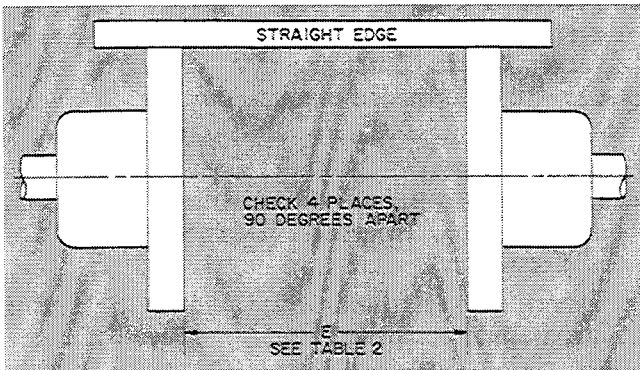

Fig. 4 — Preliminary Adjustment
**See Fig. 4.
Axial Adjustment (Dimension "E," Fig. 4) — Set the motor shaft in running position as explained under Preparation, Step 4.
Adjust the motor position as required until the distance between the flange faces (Dimension "E" in Table 2) is correct when measured at 4 points, 90 degrees apart (Fig. 4). When establishing Dimension "E", check the alignment of the flanges with a straight edge as shown in Fig. 4. *This is a preliminary check only. All final alignment must be by dial indicator.* Tighten the motor holddown bolts before proceeding further (securely, but not to specified torque as motor position will be adjusted in the alignment procedure). Final torquing will be done when alignment is complete.